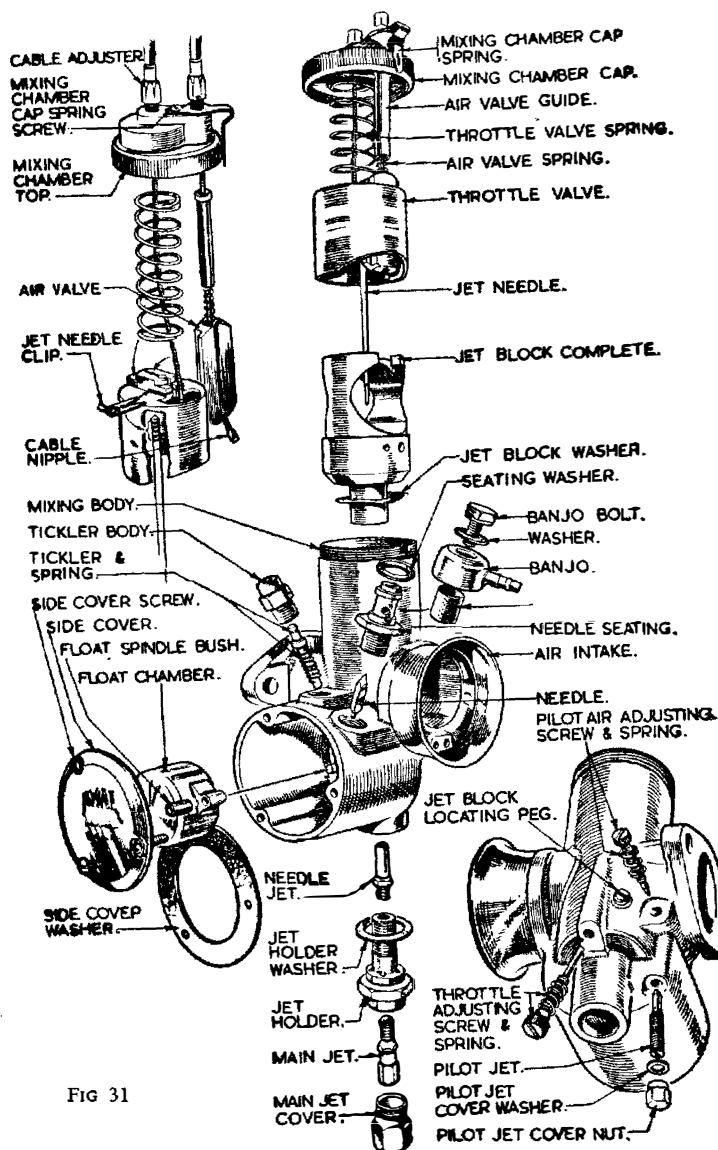

FIG 31
**Carburetter flooding.** If the carburetter is flooding, the float spindle bush (Fig. 31) may be pinched between the float swivel and the float chamber cap.